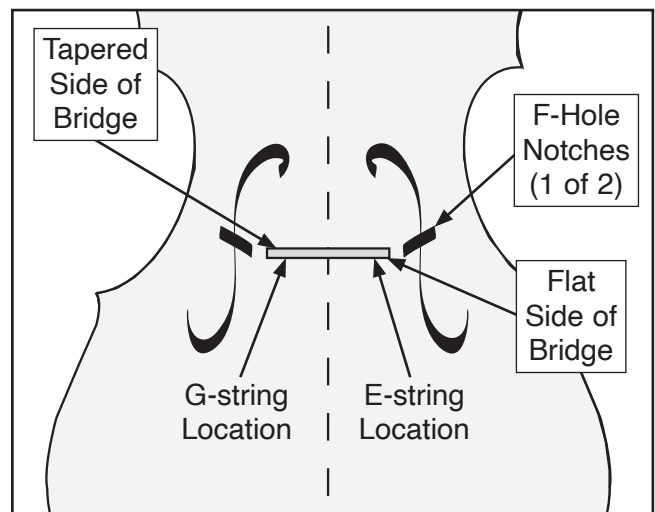

Figure 20. Bridge location.
1. Position bridge on violin table top, centered between inside notches of F-holes (see **Figure 20**).